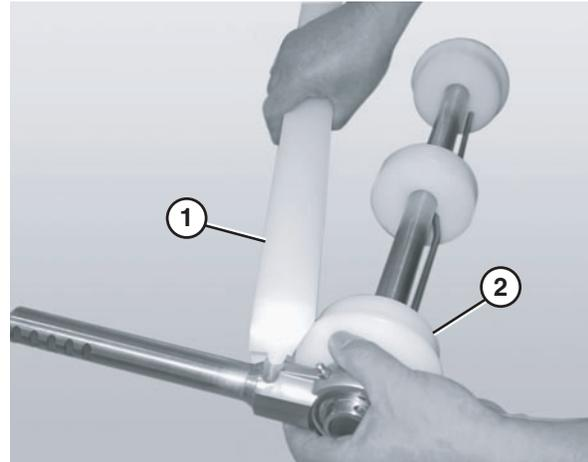

Figure 80
5. Slide the bearing shaft assembly (**Figure 80, item 2**) off the idler shaft.
6. Remove the guard bar (**Figure 80, item 3**).
7. Slide the pucks (**Figure 80, item 1**) off the idler shaft.